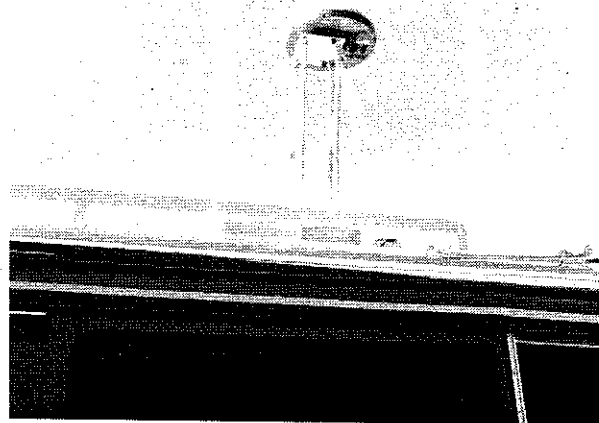
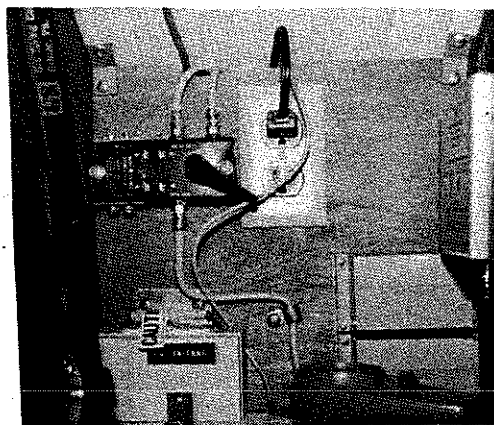

Figure 2-17. Extendable TV Antenna Radome
Figure 2-18. Antenna Control Panel
- Roof-mounted TV antenna, figure 2-17, and remote control panel, figure 2-18, located in the overhead cabinet above and to the rear of the copilot.